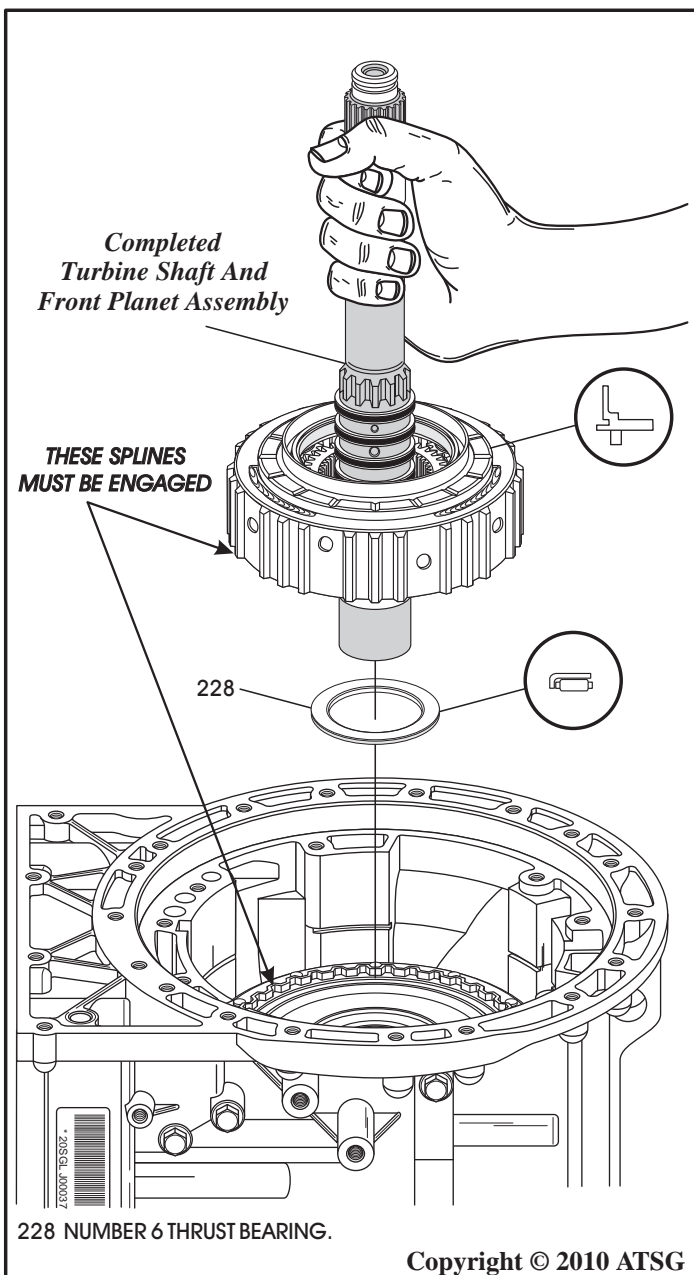

Figure 214
31. Ensure the number 6 thrust bearing is still stuck to back of the completed turbine shaft and front planetary assembly, as shown in Figure 214.
32. Install the completed turbine shaft and front planetary, as shown in Figure 214.
**Note: Splines of the front carrier must engage into K1 clutch housing (See Figure 214).**